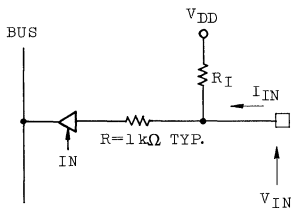

Fig. 3.2 (15) CMOS Version
The standard characteristics are shown in Fig. 3.2 (16).